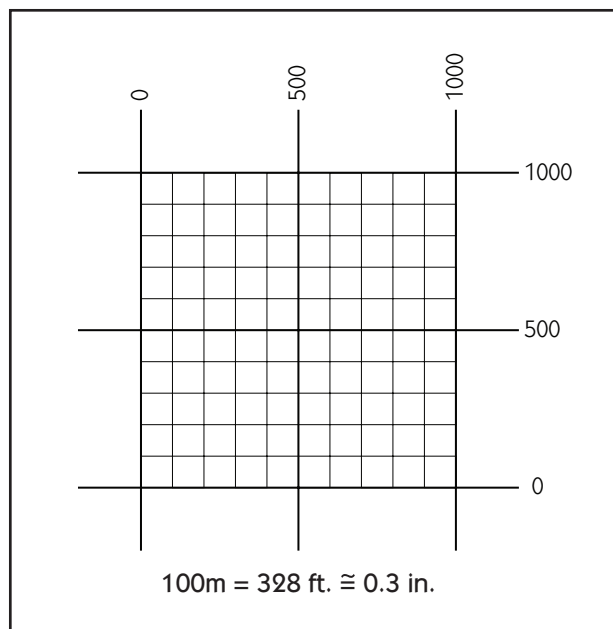

Figure 6-3. UTM template for 7.5 minute, 1:24,000 series topo
is transferred between the map and the terrain. When GPS receiver readouts are set to the UTM coordinate system, the UTM map grid allows easy transfer to a location on the map. Very accurate location can be plotted using UTM templates such as shown in Fig.6-3. On a metric map with metric contours, it is useful to remember that 300 meters is close to 1,000 (984) feet and 1,600 meters (5,249 feet) is close to a mile.